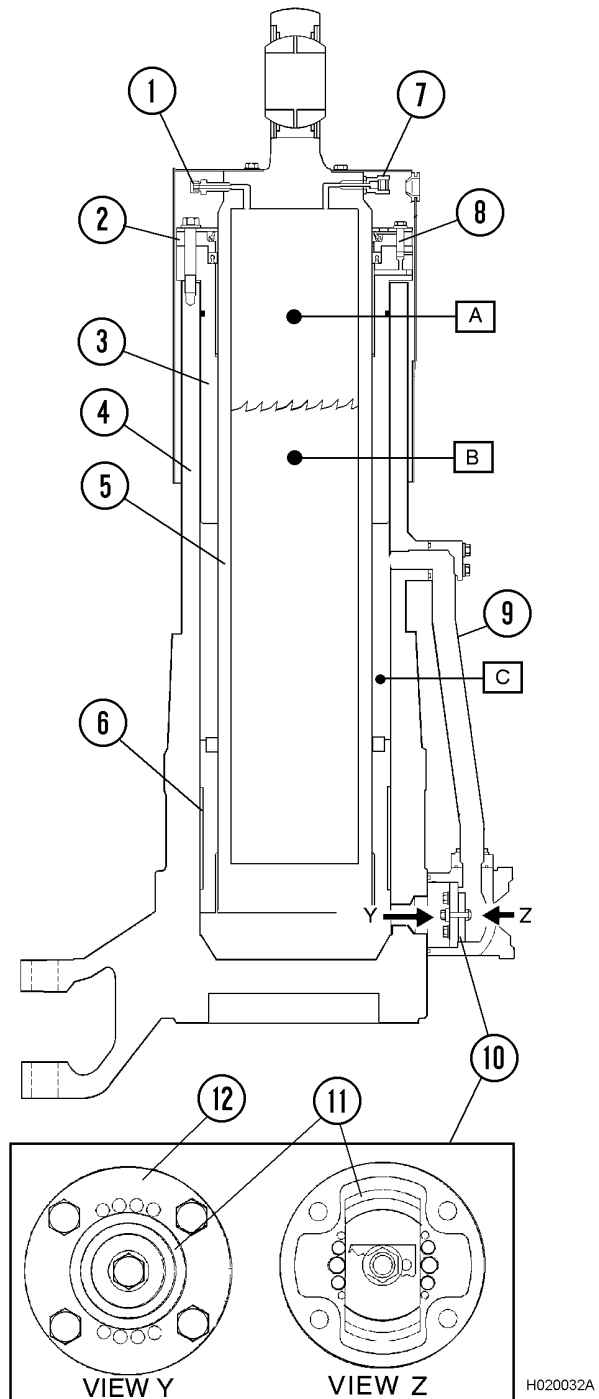

FIGURE 2-2. FRONT SUSPENSION
The inside of the suspension cylinder contains oil (B, Figure 2-2), and is charged with nitrogen gas (A). Oil (B) and oil chamber (C) are connected by tube (9) and valve assembly (10).